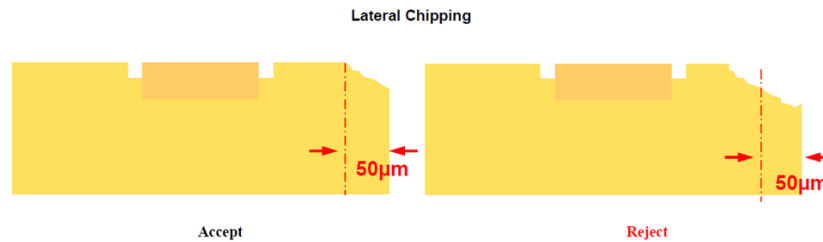

Fig. 1
- Chipping less than 50 μ m in the corner of a chip or bar has no effect on the lasing modes and the subsequent soldering process is within specs, as shown in Fig.1.